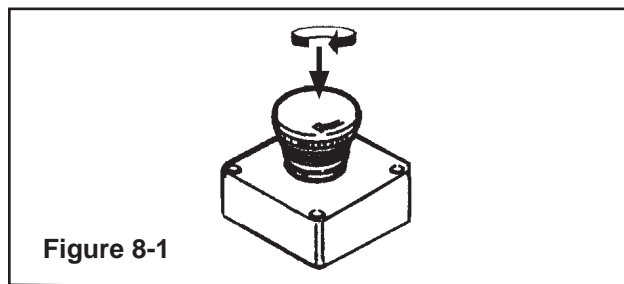

Figure 8-1
- Release the latching emergency stop button by turning it clockwise (**Figure 8-1**).
- The EMERGENCY STOP BUTTON unlocked (**Figure 8-1**)
The LATCHING EMERGENCY STOP BUTTON is located on the top center of the machine (This part is not produced by the machine manufacturer) (**Figure 8-1**).